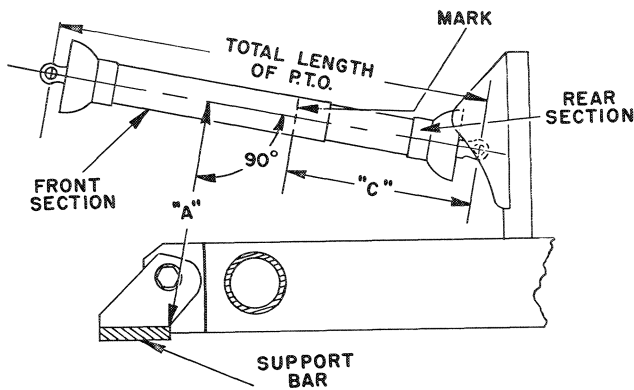

FIGURE 23
3. Measure the distance "A" between the rear top corner of the support bar and center-line of the PTO shaft as shown in Figure 23.
5. Measure the distance "C" given on the same line of the table in column 3 and mark the front PTO tube at this point as shown in Figure 23. If the front PTO tube does not